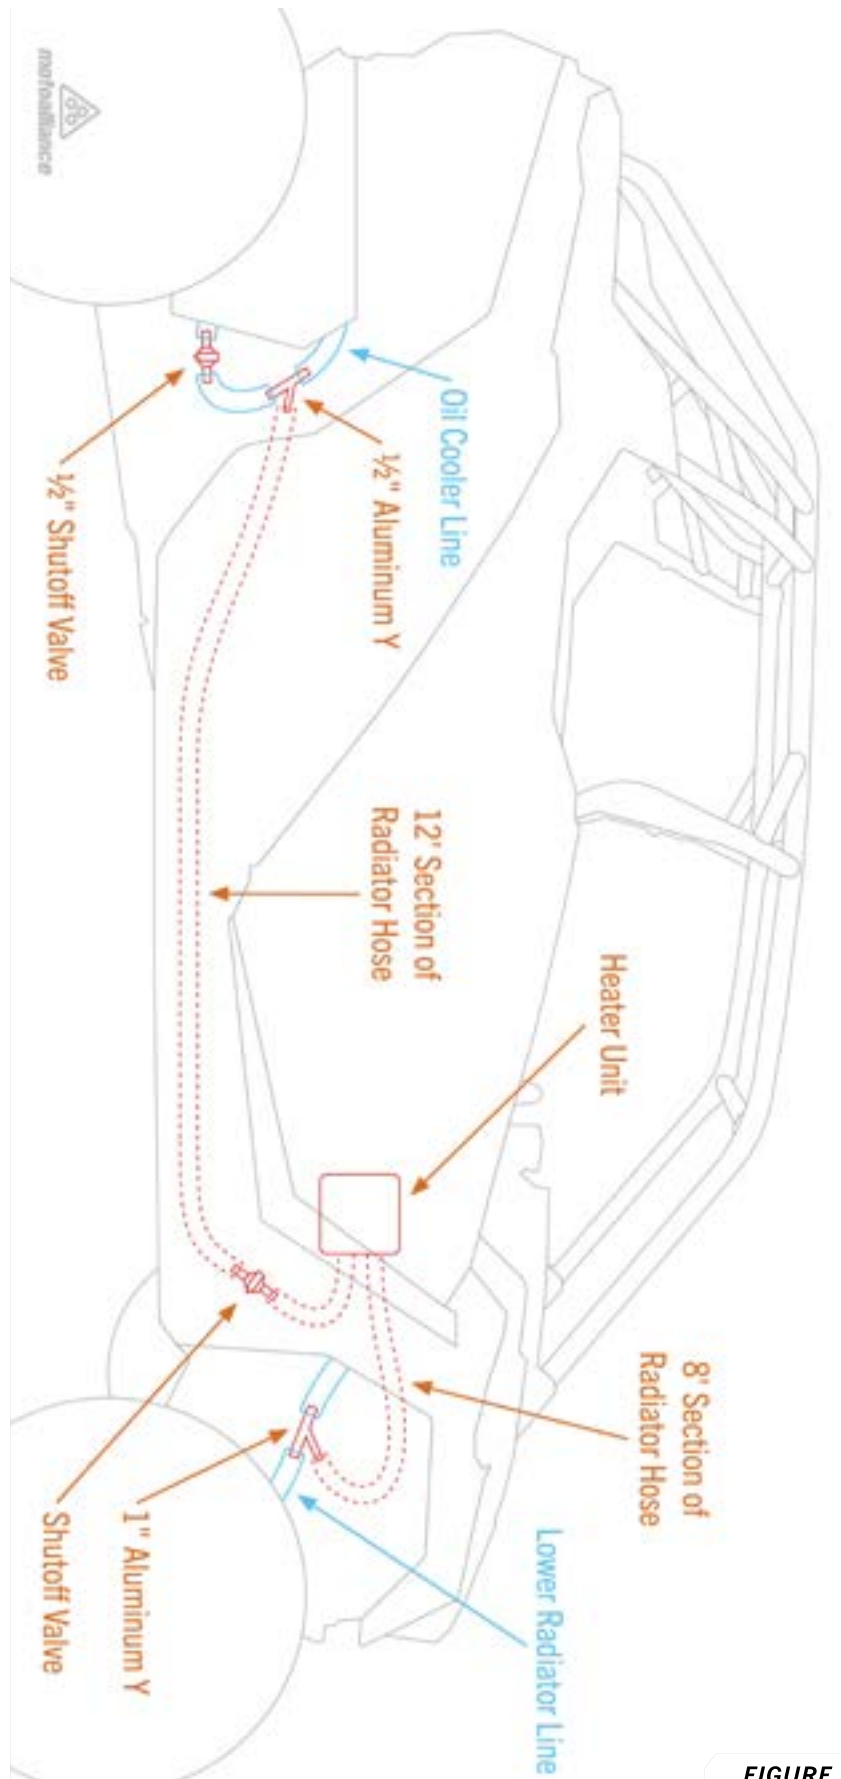

FIGURE 7
10. With the 12' section of radiator hose, follow the machine's factory radiator hoses under the machine, along the drive shaft cavity. *FIGURE 7*
12. Locate the oil cooler line in the back passenger side of your machine. *FIGURE 7*
14. Run the 12' radiator hose to the branch of the aluminum Y and cut any excess hose. Secure using a #10 hose clamp. *FIGURE 7*
22. In the passenger side wheel well, locate an accessible spot along the 12' section of radiator hose going to the oil cooler line. Cut the line, insert the shut-off valve, and secure using #10 hose clamps. *FIGURE 7*